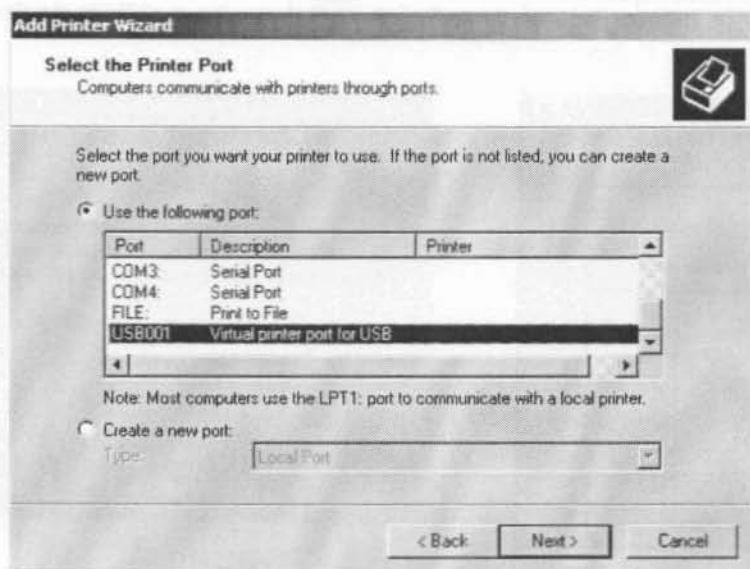

Figure 3-36 Select Printer Port
- 9.) Select the corresponding Printer Port (e.g., Figure 3-36 = USB001) and click NEXT.